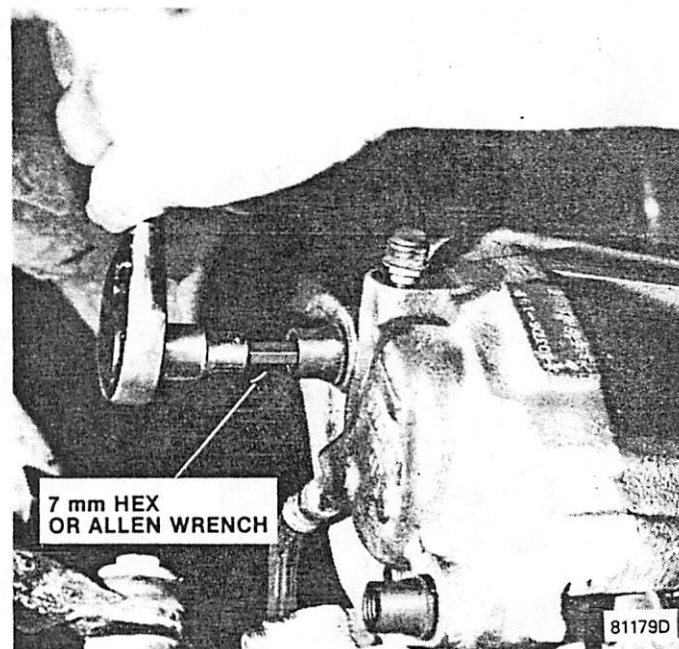

Fig. 2G-46 Mounting Pin Removal
(7) Lift caliper upward and out of anchor plate and off of rotor (fig. 2G-47).
(8) Place caliper on front suspension spring. Do not let brake hose support weight of caliper.
(9) Remove outboard brakeshoe from anchor plate